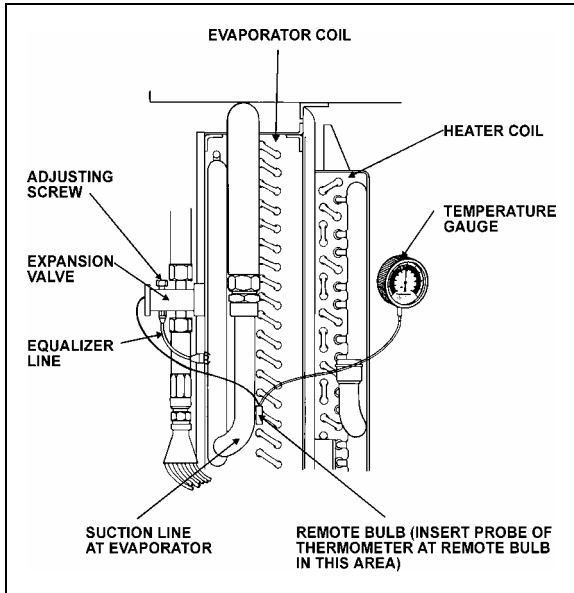

FIGURE 36: SUPERHEAT ADJUSTMENT INSTALLATION²²⁰⁴⁶
The starting method of adjusting the superheat is to unscrew completely the main evaporator expansion valve adjusting screw, then screw in 13 turns clockwise for 134A (Fig. 36). Afterwards, the following procedure should be followed:
- Install a remote reading thermometer to the evaporator outlet line near the existing remote bulb (Fig. 36).